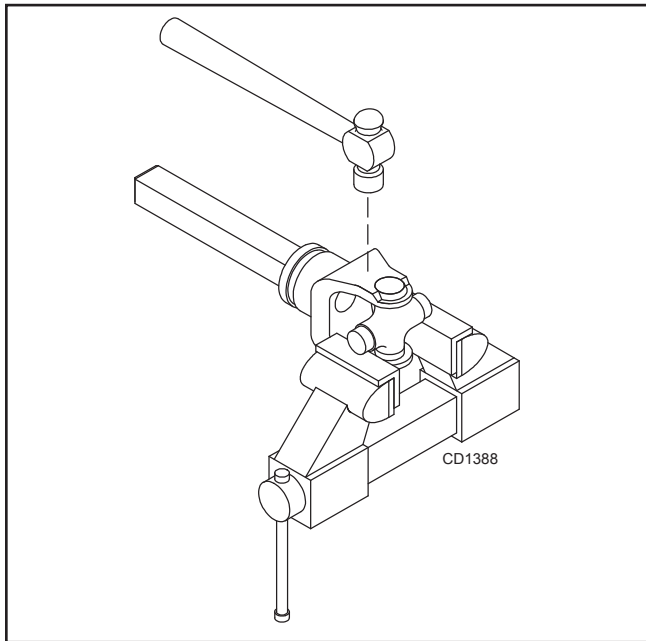

Figure 26.
4. Place universal cross in vise as shown in Figure 26 and tap on yoke to remove cup. Repeat Step 3 for final removal. Drive remaining cup out with a drift and hammer.